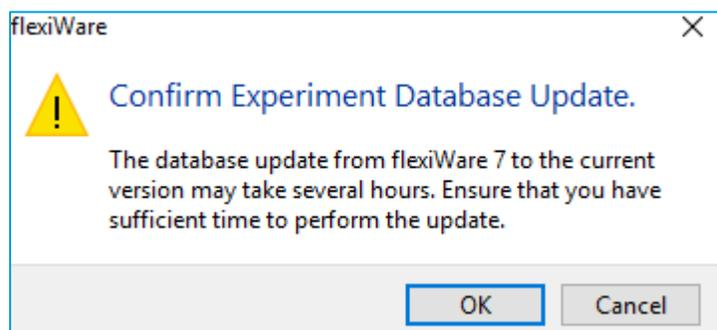

Figure 4-3. Prompt for database update
- » Select *Update the selected database to the current version* click *OK*. A confirmation dialog will appear as shown in Figure 4-3.